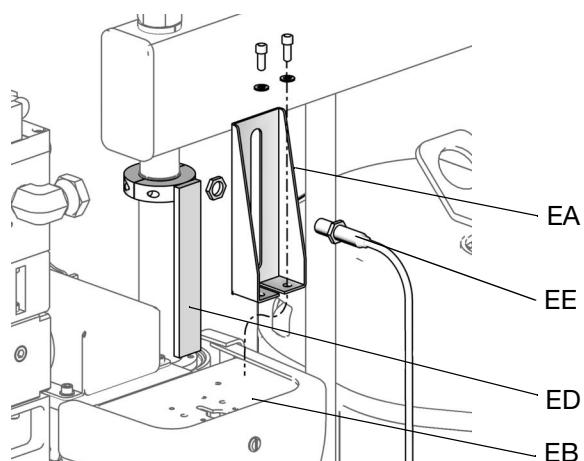

FIG. 10
3. To measure either drum low or drum empty, attach one sensor (EE) to the sensor bracket (EA).
4. Attach the actuator (ED):
- a. *For D200, D200s, D200si and D200i supply systems:* Attach the actuator (ED) to the ram piston rod, near the top, so it passes in front of the sensor (EE) at the correct level for drum low or drum empty. See FIG. 10.
- b. *For D60 and D60i supply systems:* Attach the actuator (ED) to the ram piston rod, near the top, so it passes in front of the sensor (EE) at the correct level for drum low or drum empty. Flip actuator bracket (ED) so that it points upwards instead of downwards to allow it to pass the sensor (EE). See FIG. 10.